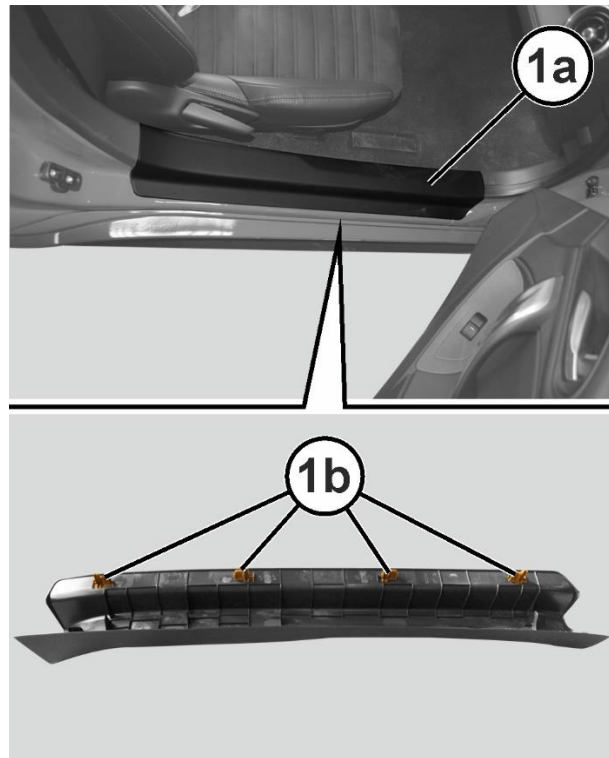

Figure 10 – Door Sill Scuff Plate
21. Using a suitable trim stick tool, remove the door sill scuff plate (1a) from both sides of the vehicle by disengaging the retainers (1b) (Figure 10).